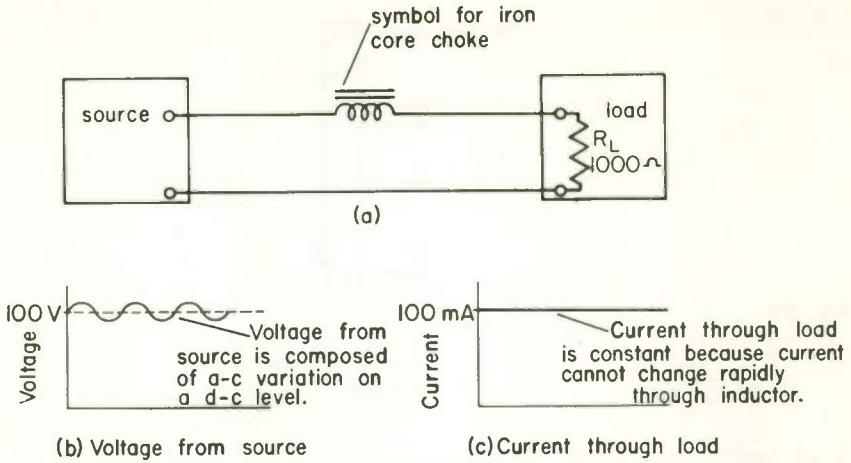
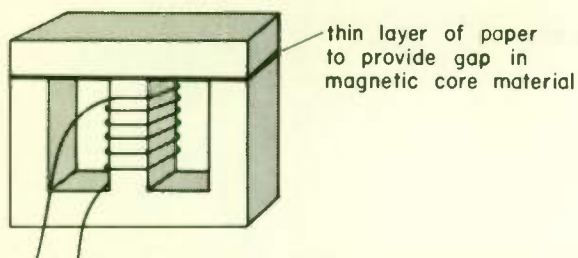

Fig. 34 A choke smooths out variations in load current.
Fig. 36 Construction of an iron-core choke showing gap to prevent saturation due to d-c current flowing through choke.
13 SOME TYPES OF INDUCTORS . . . Inductors are very often called chokes. An example of a common use for a choke is as a power supply filter. The purpose of the choke is to smooth out variations in load current, thereby making the current through the coil essentially constant, or d-c. The inductor smoothes out the variations because, as you will remember, current through an inductor cannot change rapidly. Figure 34(a) shows a source delivering current to a load. In Fig. 34(b) we see that the source voltage is composed of a d-c voltage upon which there is some a-c variation. The choke prevents variations in load current, thereby making it essentially constant, as shown in Fig. 34(c).
bottom of the coil. This type of construction offers a low-reluctance path for the flux, so that there are more lines of force and therefore a higher inductance. There is one slight drawback, however. Since the reluctance path is low, a d-c current flowing through the choke, such as that shown in Fig. 34, might cause core saturation. If the core is saturated, the inductance of the coil will be reduced. To avoid this difficulty, the core is sometimes so constructed as to leave a small air gap as shown in Fig. 36. Although the air gap will prevent core saturation, it will also somewhat decrease the inductance of the coil. Therefore, the air-gap spacing is carefully computed to prevent core saturation without seriously decreasing the inductance of the coil.
Another disadvantage of the choke shown in Fig. 36 is that due to the square corners and the fact that the flux must make sharp bends in traveling around the corners; some flux leaves the core and travels through the air. Even though this flux, or *leakage flux* as it is called, is small, it can affect nearby circuits and introduce an unwanted signal into them. This problem is partly solved by enclosing the core in a metal box, called a shield, which keeps the flux from traveling outside to the nearby circuits.
- In the diagram of Fig. 34, the voltage across R_L (*fluctuates above and below 100 V, as the voltage from the source does*) (*is essentially constant at 100 V*) (*is much less than the voltage from the source because of the drop across the choke*).